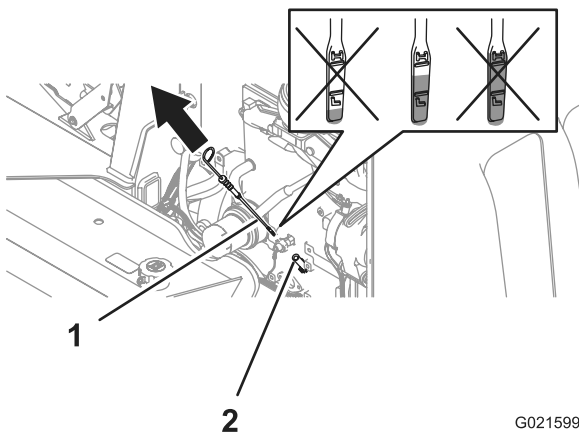

Figure 43
4. Remove the dipstick and wipe clean it with a clean cloth (Figure 43).
5. Insert the dipstick into the dipstick tube, pull the dipstick out again, and read the oil level on the dipstick (Figure 43).